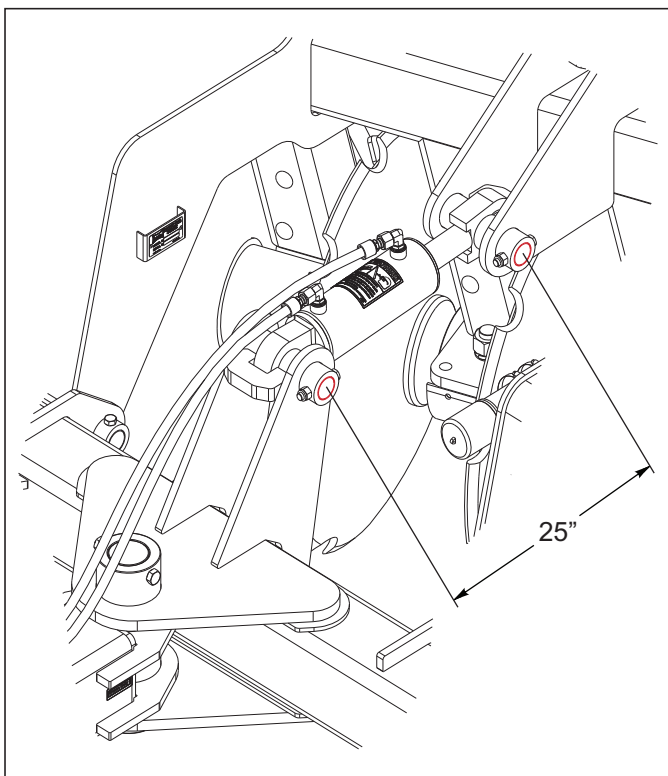

Figure 4-5: Measurement
3. During field operation the leveling cylinder should be initially set at a dimension of 25" from pin-to-pin See Figures 4-5.. After initial operation, adjustments can be made to make sure unit is achieving a level discing operation.